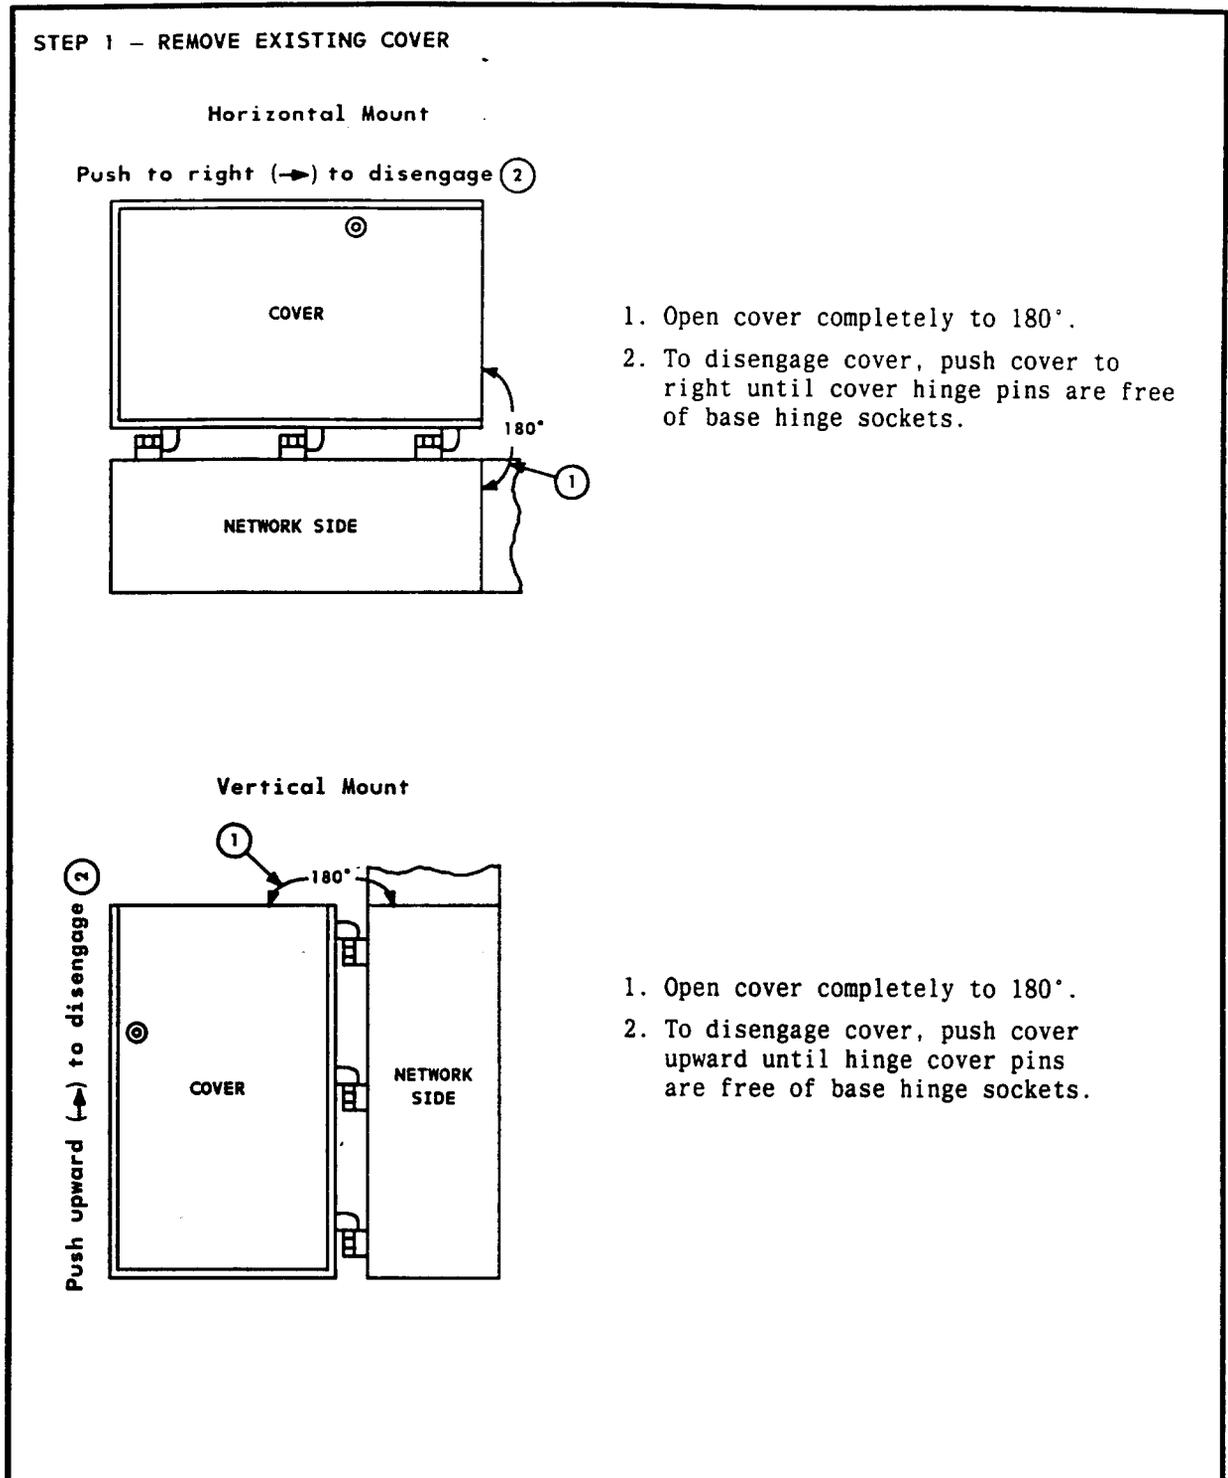

Fig. 25—Removing Existing Cover on Network Side of Unit
6.02 To replace the cover on the network side of the unit, refer to Fig. 25 and 26 and follow the steps beside the figures.